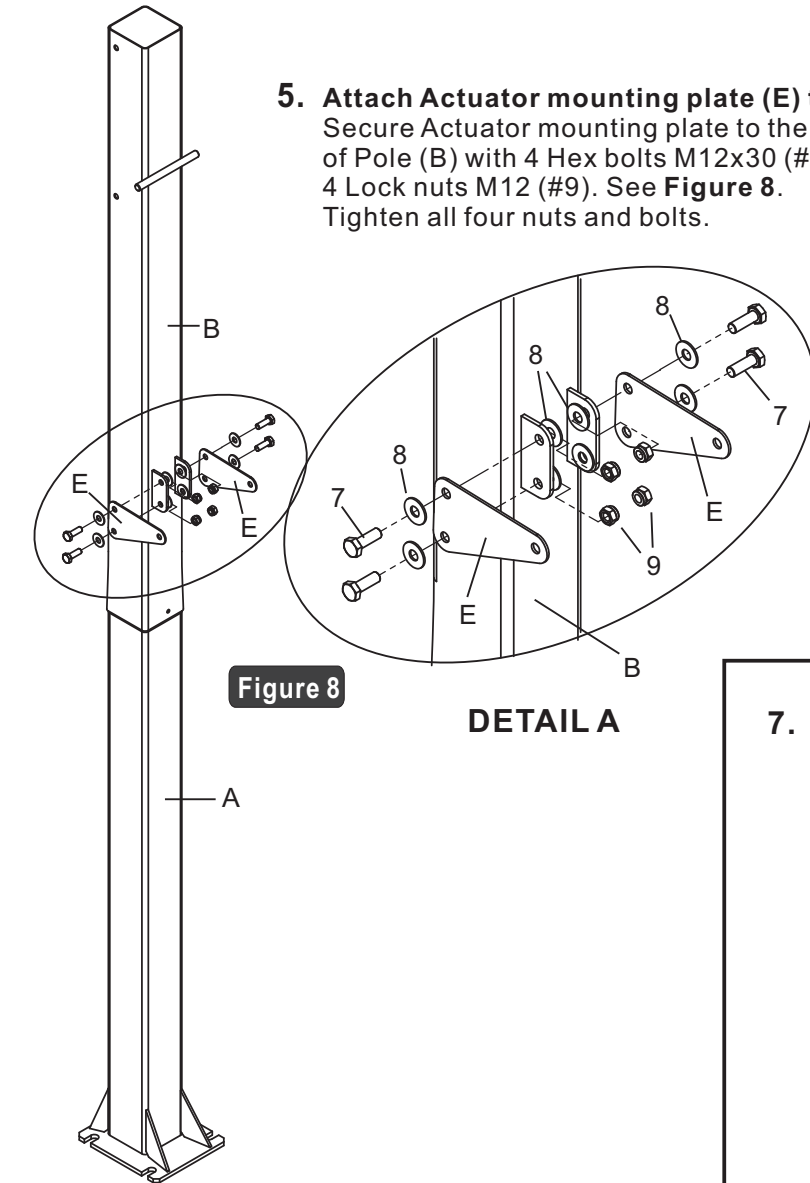

Figure 8
5. Attach Actuator mounting plate (E) to Top Pole (B).
Secure Actuator mounting plate to the bracket welded on backside of Pole (B) with 4 Hex bolts M12x30 (#7), 8 Flat washers M12 (#8), 4 Lock nuts M12 (#9). See **Figure 8**. Tighten all four nuts and bolts.
8. Attach Actuator (C) to Lower extension Arm (F).
Slide Actuator plastic sleeve (D) over top of Actuator (C), align the hole in the Plastic sleeve with the hole in the Actuator, slide one Steel Sleeve (#5) thru both parts, see Figure 8. Hold the Actuator assembly, align Steel Sleeve with the Rear hole of Lower extension Arm (F), Attached them together with one Hex bolt M12x205 (#3), two Flat washers M12 (#8), Two Nylon washers (#1) and one Lock nut M12 (#9). Do not over tighten the bolts.